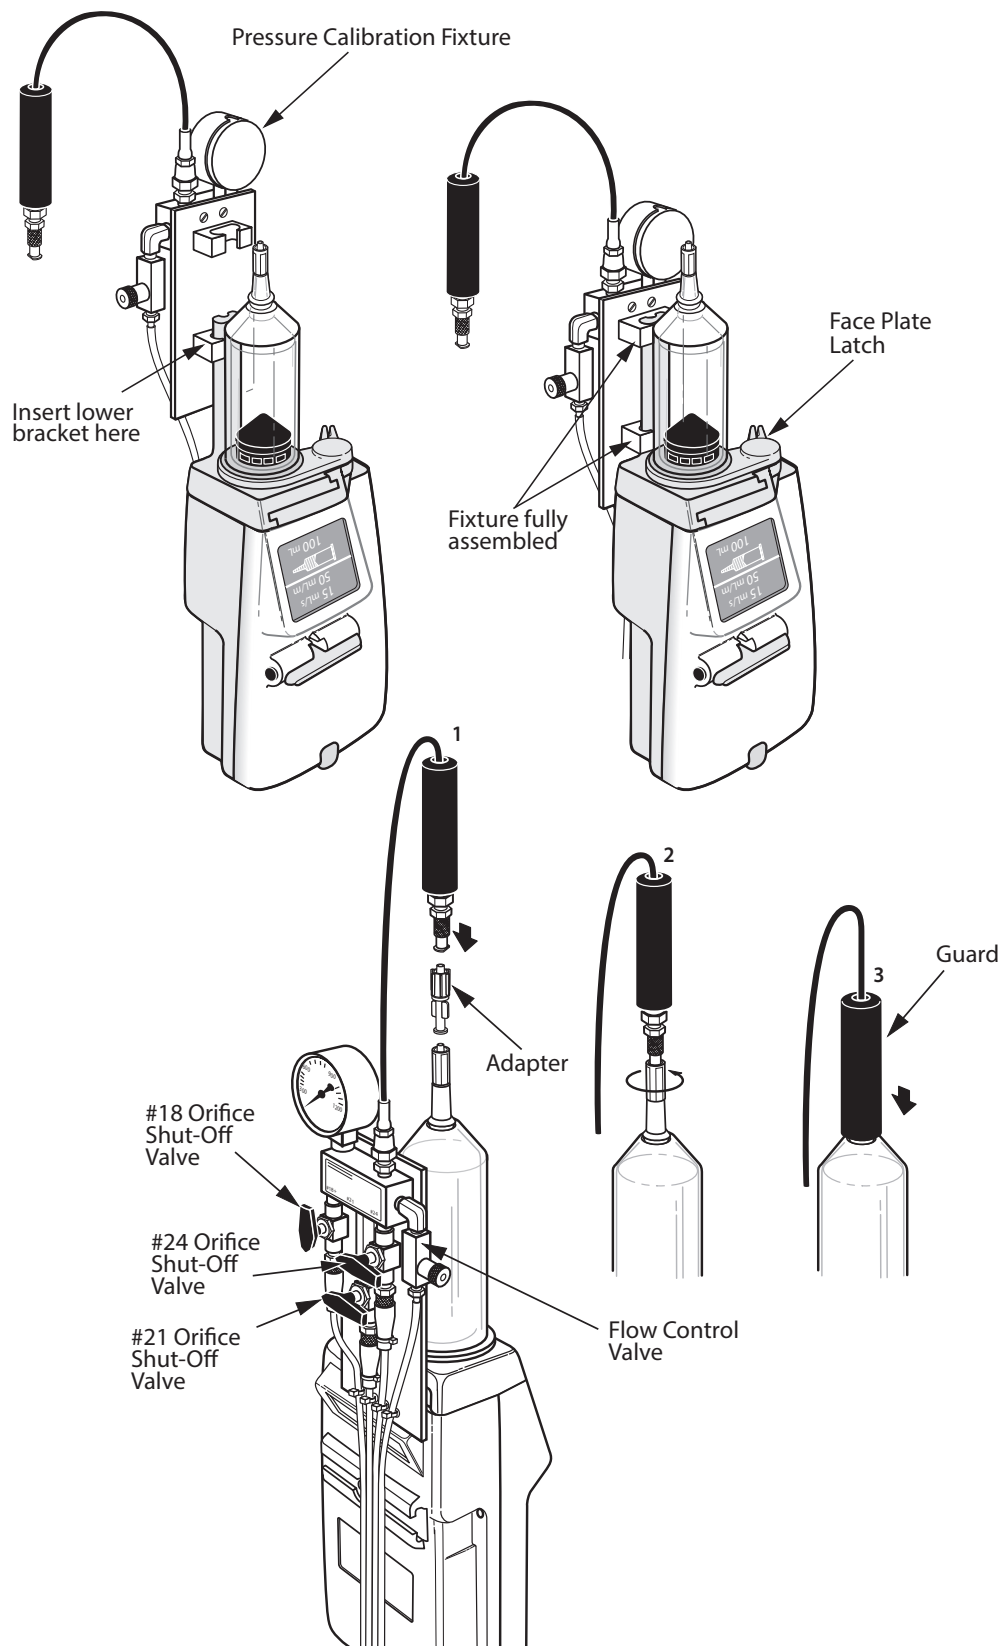

Figure 5-6-2. Pressure Gauge Installation for Powerhead Calibration
2. Install the Pressure Calibration Fixture according to Figure 5-6-2, and ensure guard is in place. Do not use plastic extension tubing between the fixture and the syringe, although use of a male-female adapter is recommended. Use of tubing will lead to increased pressure drops and significant measurement errors.